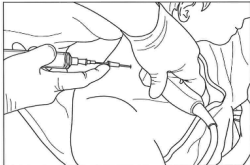

Fig 3
- Maintaining continuous ultrasound visualization, advance the catheter tip off of needle using index finger of the hand holding the syringe. Withdraw needle completely (Fig. 3).